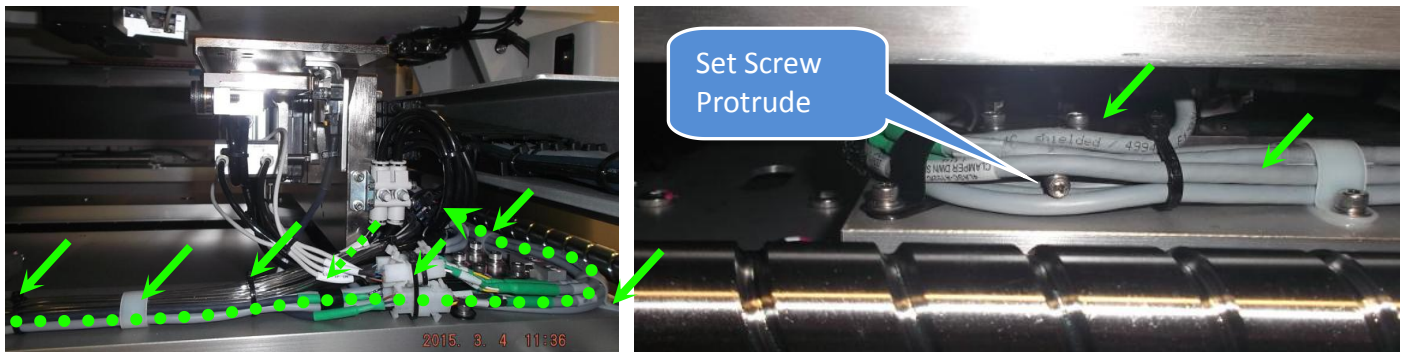

Figure 36 Stepper Motor Cable Routing (Fix Rail)
38. Gently route the cable as below Figure 36. Secure cable with Cable Clamp & Cable Tie.